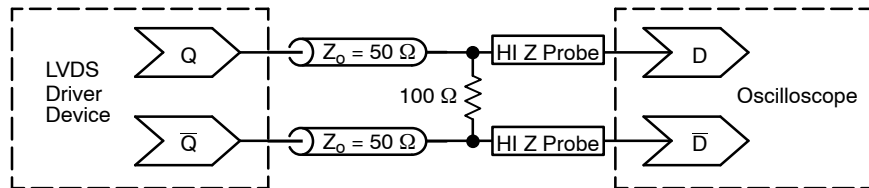

Figure 14. Typical LVDS Termination for Output Driver and Device Evaluation
4. LVDS outputs require $100\ \Omega$ receiver termination resistor between differential pair. See Figure 14.